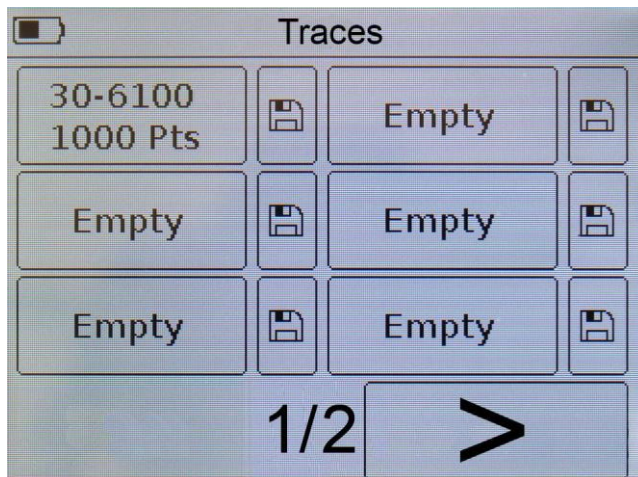

Figure 9.27 – Menu for saving measurement results
9.10.1. To save the obtained measurement results, enter the main menu of the device by pressing button (12) "MENU" (Figure 9.1) and select **Traces**. The menu will appear as in Figure 9.27.
9.10.4. To view the saved measurement results and compare them with the current ones, click on the frequency setting. The background of the field with the frequency assignment will turn black. Go to graphs with dimensions. The saved measurement results on the graph will be displayed as an orange graph (trace) (Figure 9.27).